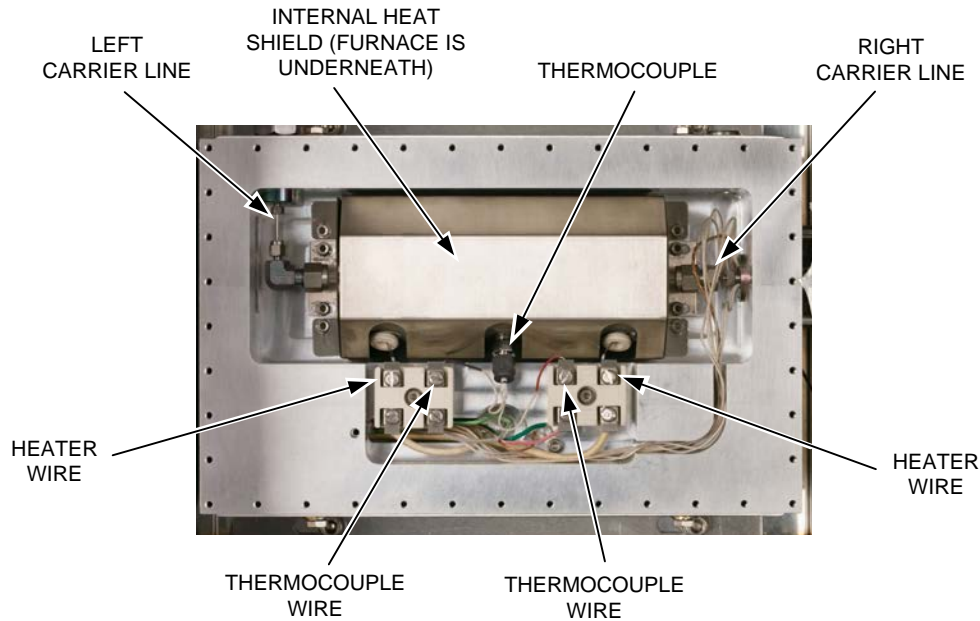

Fig. 5.4. Furnace Housing with Cover Removed
3. Locate the connections to the furnace (see Figure 5.4).
8. Connect the thermocouple wires to the inside terminals as shown in Figure 5.4. Hold the terminal as you tighten the screws holding the wires in place, to prevent damage to the terminal block.
9. Connect the heater wires to the outside terminals as shown in Figure 5.4. Hold the terminal as you tighten the screw holding the wire in place, to prevent damage to the terminal block.
2. Reconnect the right-side carrier lines to the furnace (see Figure 5.4) as follows, but do not tighten the connections:
3. Reconnect the left-side carrier lines to the furnace (see Figure 5.4) as follows, but do not tighten the connections: